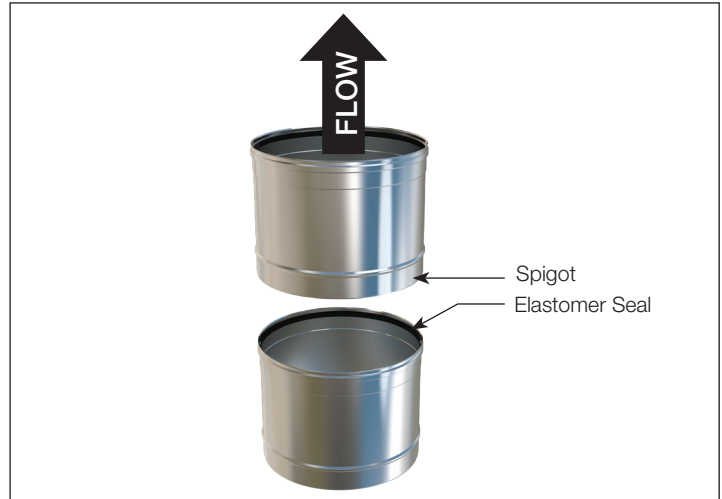

Fig 1-1: Flow direction
1. EPSC are always installed with the female spigot facing towards the termination and the male end facing towards the appliance. The product label includes an arrow pointing away from the appliance. See Fig. 1-1